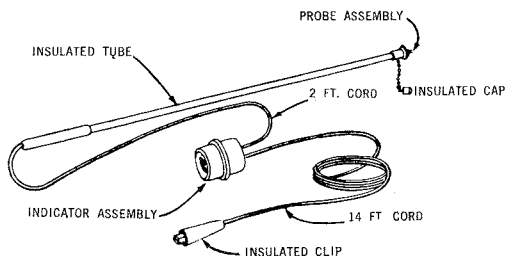

Fig. 1 — "Z" Voltage Tester
2.01 The Z Voltage Tester is designed to detect the presence of voltages from 60 volts to 7200 volts. It consists of an indicator assembly which contains a small neon glow unit and reflector and a plastic insulated tube equipped with a replaceable probe assembly on one end for making contact with the conductor, conduit or street light fixture to be tested. Resistors inside the tube are included to limit the amount of current which can pass through the device. The tube, indicator assembly and an insulated clip are connected by insulated cord as illustrated in Fig. 1.